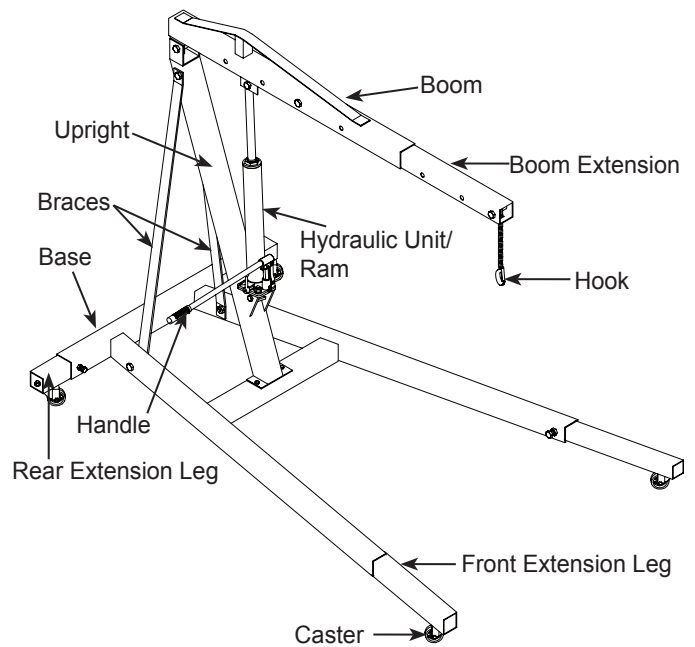

Figure 2 - Model 44020 Nomenclature
1. Make sure all parts are present (refer Fig. 2 & 4). If any parts are missing or damaged, contact customer service.
2. Attach swivel casters (15) to rear extension legs (24) with bolts, washers & nuts (27, 23 & 22).
3. Slide front extension legs (14) and rear extension legs (24) into base (11), secure with bolts (13) into base, tighten bolts.